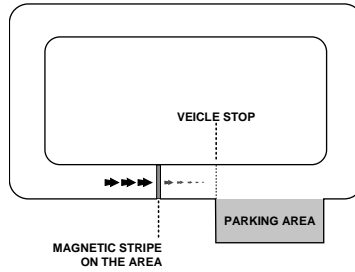

Fig. 9
1. Place the magnetic strip (delivered by **EuroGames S.r.l.** upon Customer's demand) on the track in correspondence of the desired stopping point (Fig. 9).